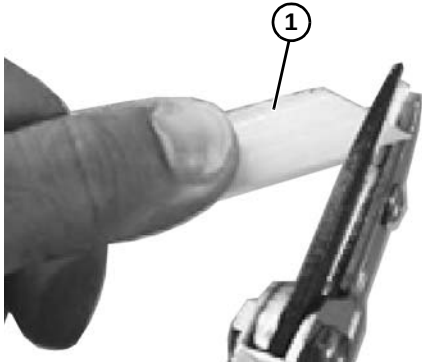

Figure 59
1. Cut both wear strip (**Figure 59, item 1**) ends in a 45° angle. The beginning of a new wear strip (in the direction of travel) must cut back a small angle.